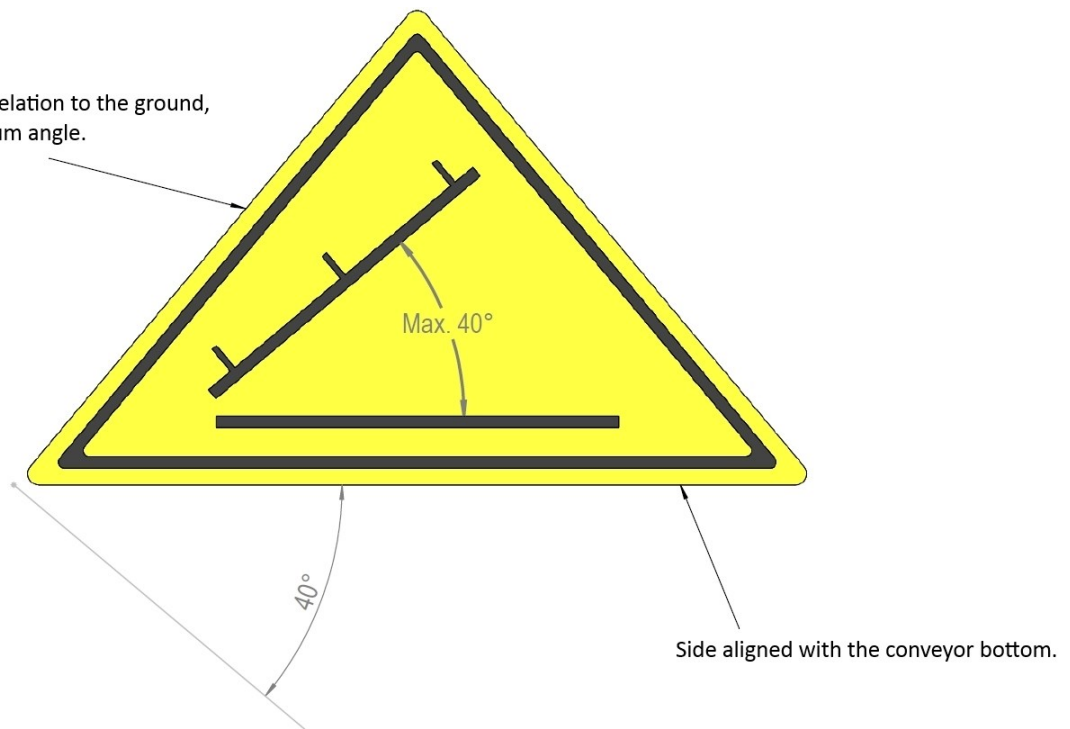

Figure 19
**Note! The maximum operating angle for the output conveyor is 40°!** The maximum angle is indicated in the label in Figure 19 and the instructions attached to the output conveyor.